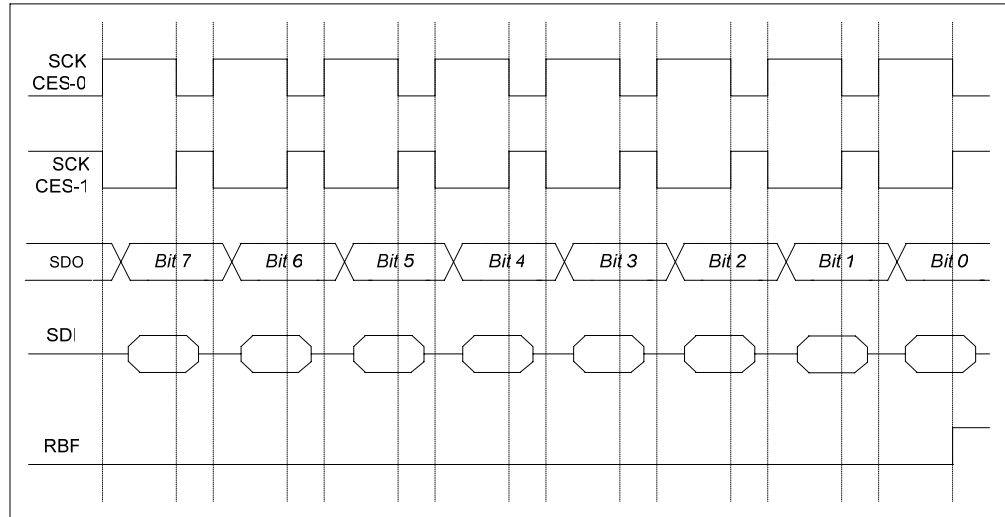
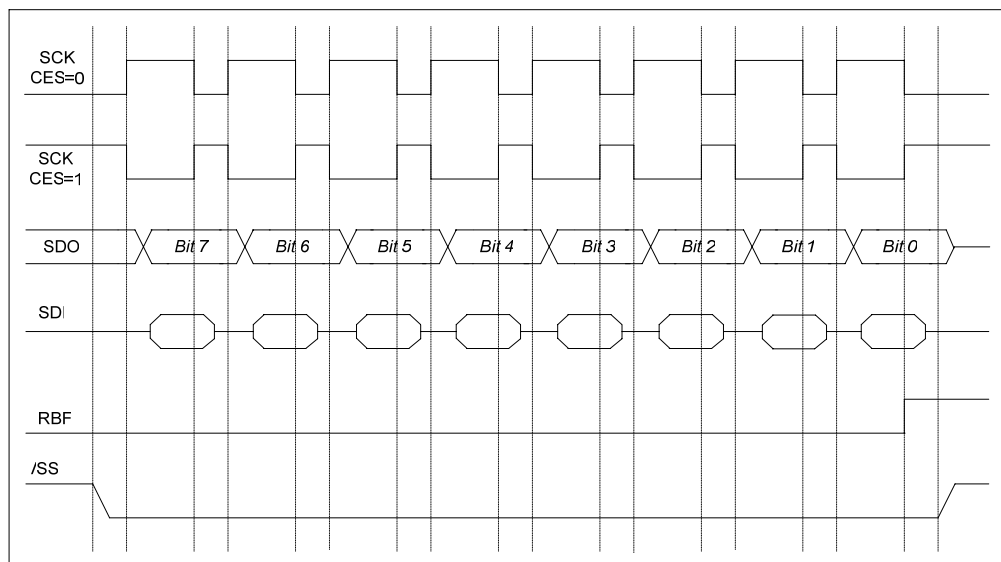

Figure 6-42 SPI Mode with /SS Disable
Figure 6-43 SPI Mode with /SS Enable
- Timing is shown in Figure 6-42 and 6-43
The SCK edge is selected by programming bit CES. The waveform shown in Figure 6-42 is applicable regardless whether the EM78F564N is in master or slave mode, with /SS disabled. However, the waveform in Figure 6-43 can only be implemented in slave mode, with /SS enabled.